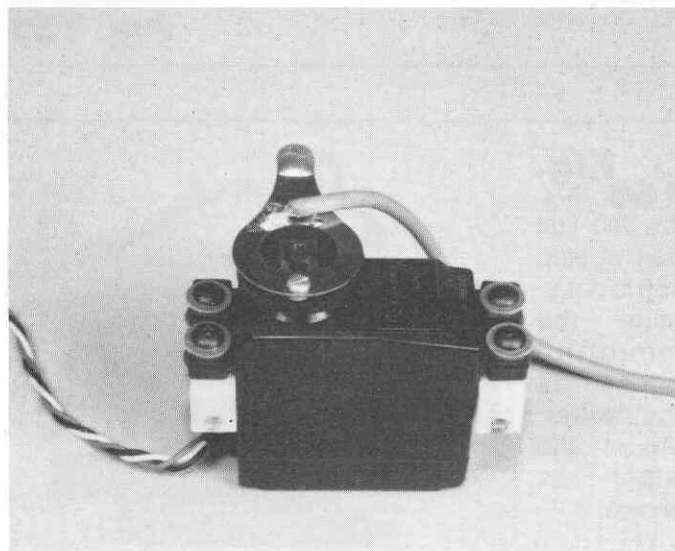

Fig. 160
□ **Fig. 160** Follow the first part of step 155 to determine the mounting position for the wiper. Then remove the servo from the chassis and mount the wiper as shown. Re-install the servo to the chassis.